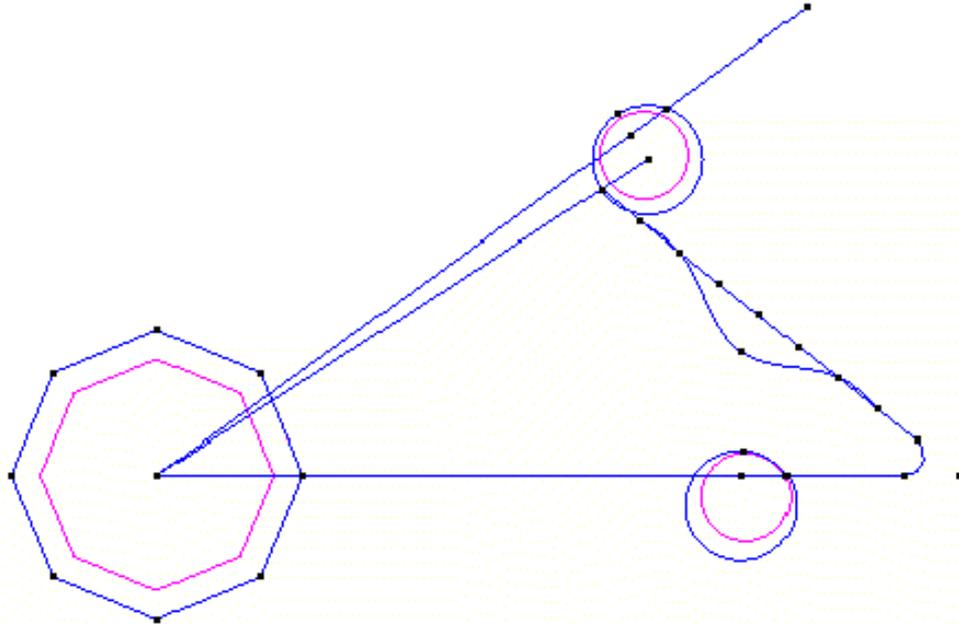

Figure 41. Optimizing the design
- 12 . Send the new profile (See Figure 41) to the "profile" layer and eliminate the auxiliary lines.